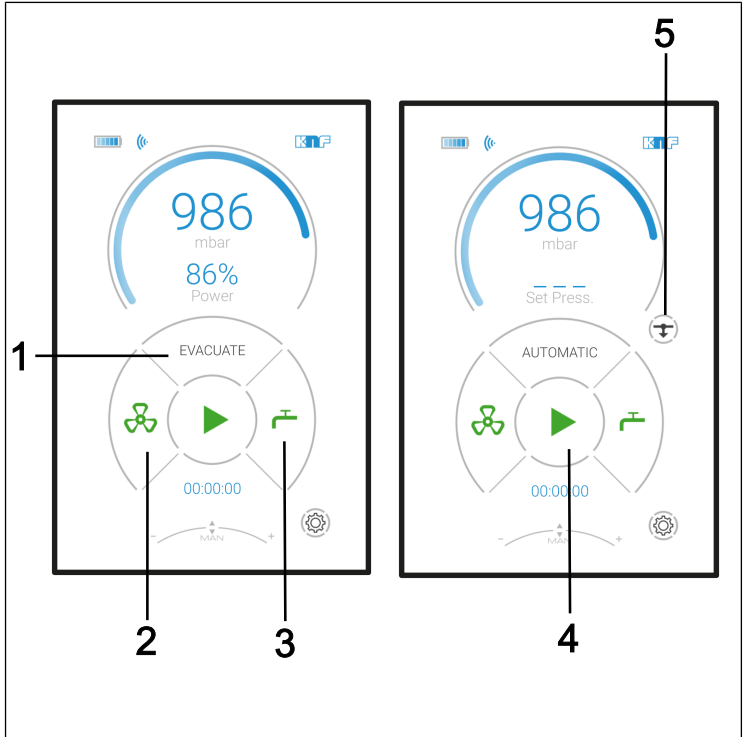

Fig.15: Menus and buttons on the touchscreen
- Menus for selecting the mode (Fig. 15/1).
- Operating buttons (Fig. 15) with the functions:
- Starting and stopping a process (4);
- Opening and closing the venting valve (2);
- Opening and closing the coolant valve (accessory) of the condenser (3).
Press the *START*  (Fig. 15/4) button to start a process.
Press the *STOP*  (Fig. 15/4) button to stop a process.
Press the *OPEN*  button to open the venting valve (Fig. 15/2).
If the vent valve is permanently open (*CLOSE*  button appears in the display), it can be closed again by pressing the *CLOSE*  (Fig. 15/2) button.
Press the *OPEN*  button for (Fig. 15/3) to open the coolant valve on the condenser.
Press the *CLOSE*  button for (Fig. 15/3) to close the coolant valve on the condenser.